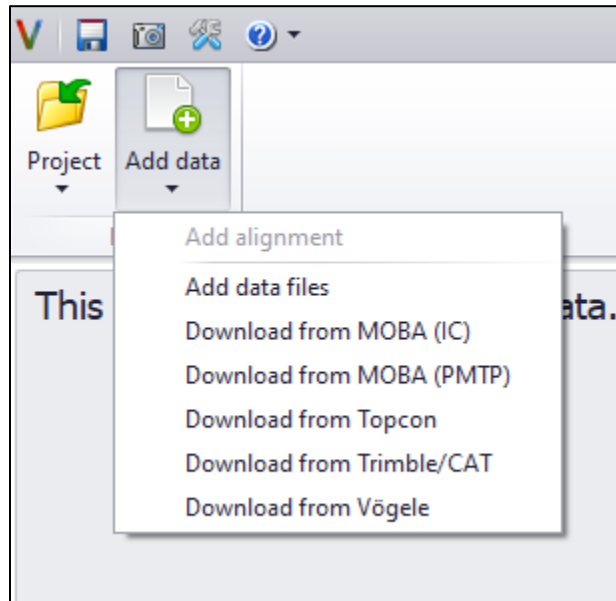

Figure 4. Add data button.
2. Select the **Add Data** button, as shown in Figure 4. The available options include:
- Download from MOBA (IC).